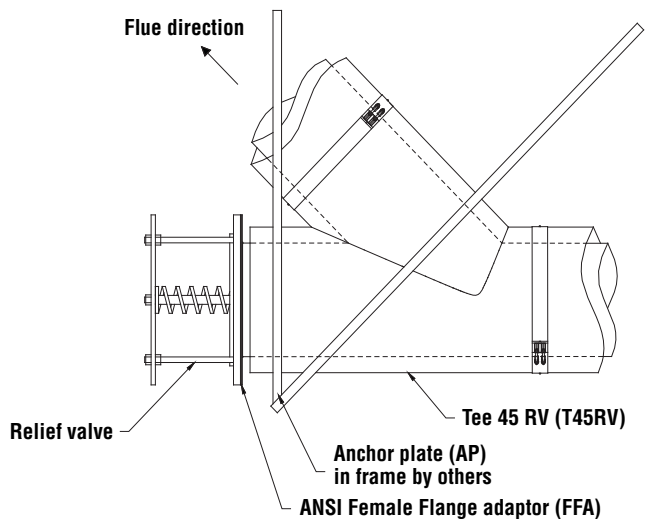

Figure 50 - Relief Valve installation
4. The relief valve must be supported independently of the rest of the exhaust system. The best way to accomplish this is to locate an Anchor Plate (AP) support at the joint between the ANSI Flange adaptor and the adjacent fitting. See Figure 50.